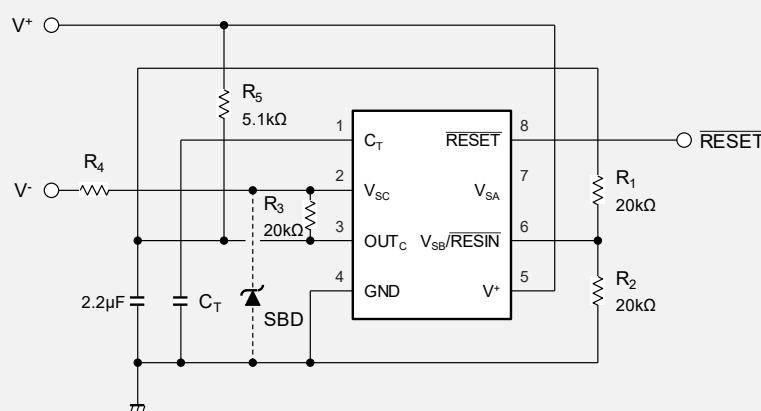

Fig. 10 Positive and negative dual power supply monitoring (V⁺ = 5V, V⁻ = negative voltage)
- V⁻ detection voltage is calculated as following formula. In case of resistor value in Fig.10, the detection voltage (falling) is about -4.3V and the detection voltage (rising) is about -4.4V.